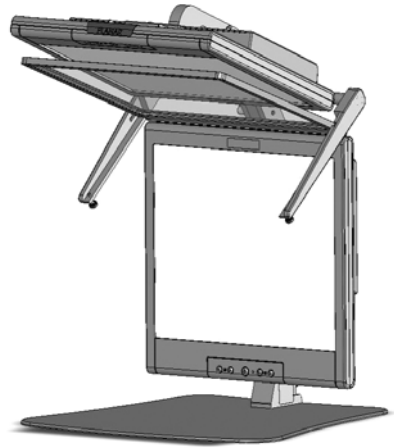

Figure 9. The StereoMirror monitor in 2D mode.
- Lift the mirror and slide it into the locked, upright position. (See Figure 9.)